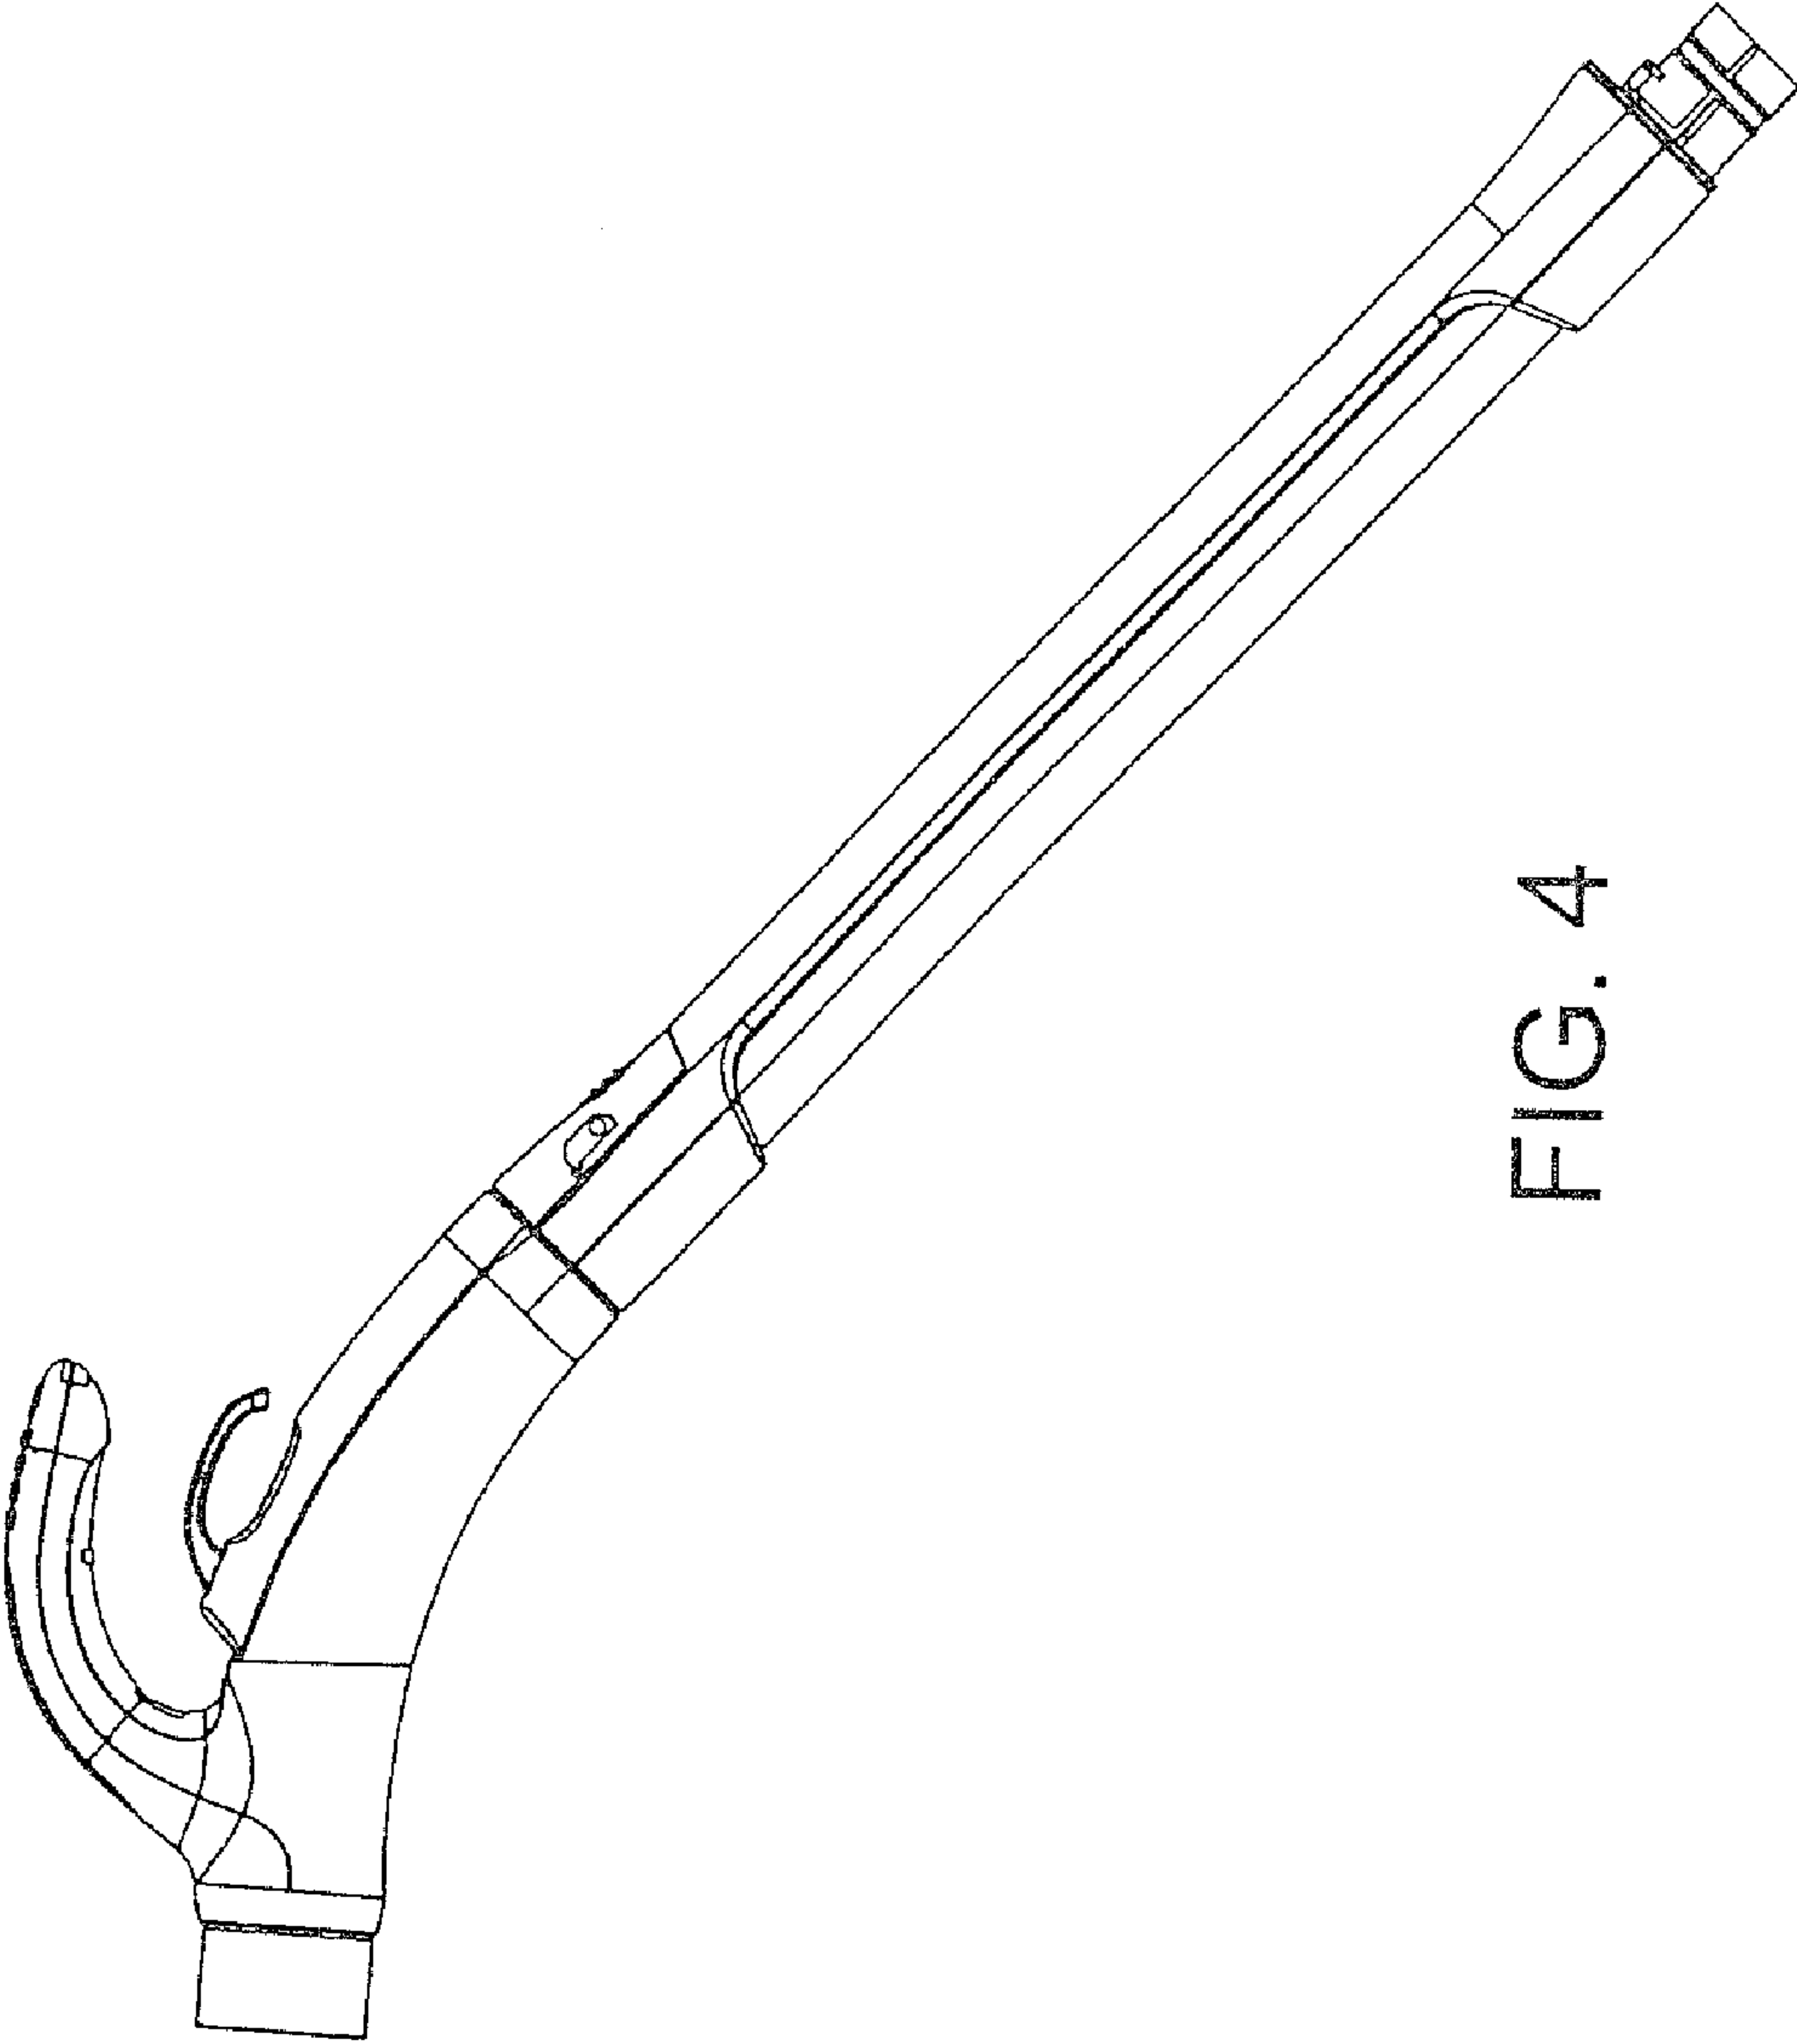

FIG. 4
- FIG. 4 is a left side view in a closed position;